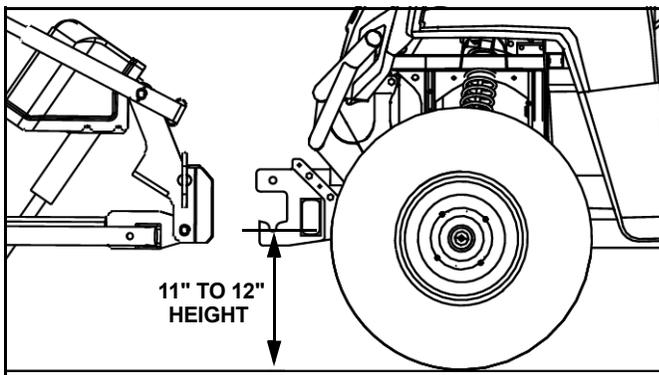

Figure 9
15. Adjust the UTV Mount (#1) on the machine to provide an 11" to 12" height between the lower pin slots and the ground. (See Figure 9.)